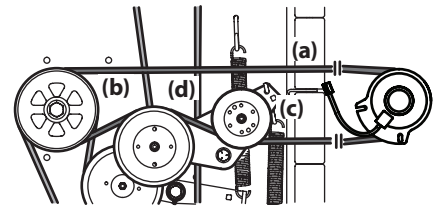

Figure 51
1. Remove the PTO belt (a) from the deck as instructed in the Deck Removal section then remove it from around the PTO clutch. See Figure 51.
2. Route the PTO belt (a) as shown in Figure 51.
3. After routing the belt around the PTO pulley (b), use a 1/2" drive in the idler pulley bracket (c) and turn towards the right of the mower to finish routing the belt around the idler pulley (d). See Figure 51.